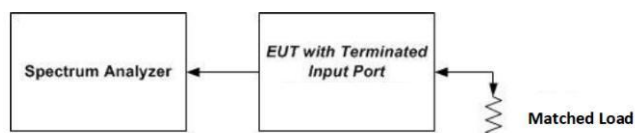

Figure 3 – Noise limit test setup
- a) Connect the EUT to the test equipment as shown in Figure 3. Begin with the uplink output (donor) port connected to the spectrum analyzer. When measuring downlink noise, connect the downlink output (server) port to the spectrum analyzer.
NOTE—Some signal boosters will require a signal generator input because they will not operate unless a signal is received at the input terminals. If this is the case, for the setups shown in Figure 3 and Figure 4 connect a second signal generator at the server port, then cycle the RF output of the second signal generator to simulate this function.
- a. Connect the EUT to the test equipment as shown in Figure 3 with the uplink output (donor) port connected to the spectrum analyzer.